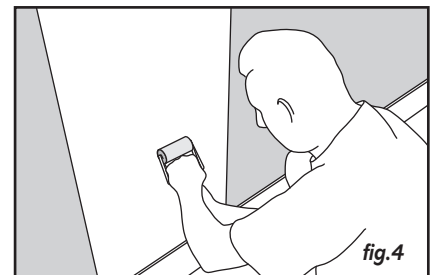

fig.4
- Press down over the entire surface of the panel, using a roller, and apply a pressure of 1 kg/cm² (fig.4).
- Cut back any excess filler above the joint using a knife (fig.4).
- Once the two panels are fitted, seal the panels with a hot-melt joint on either side of the pillar (fig.4).